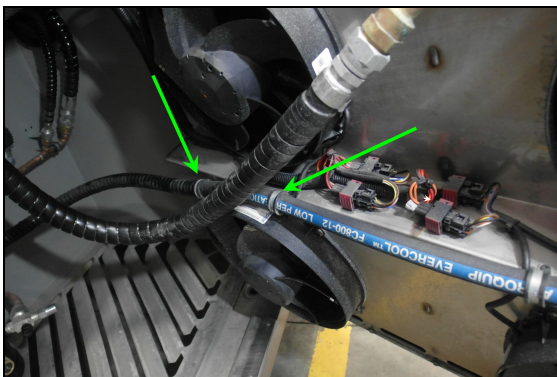

Fig.35
31. Attach the lower condenser hose to the condenser body by reinstalling the two (2) P-clamps previously removed (Fig.35).